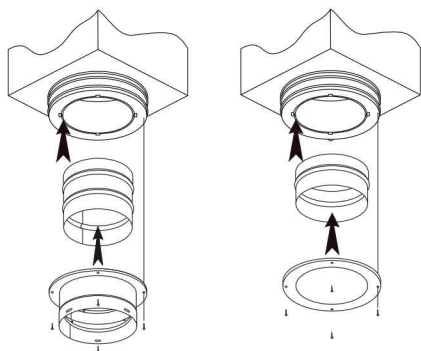

Figure 2
• Trim Ring Adapters (Figure 2)